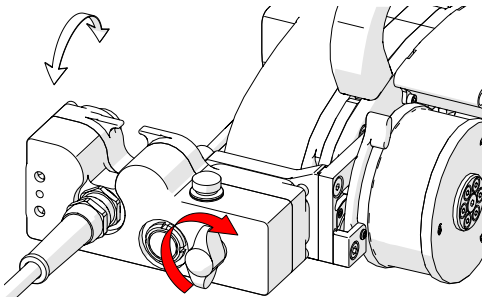

Fig. 125 - Tighten knob
6. Fasten the umbilical to the crawler's umbilical mount by tightening the black wing knob (Fig. 125).